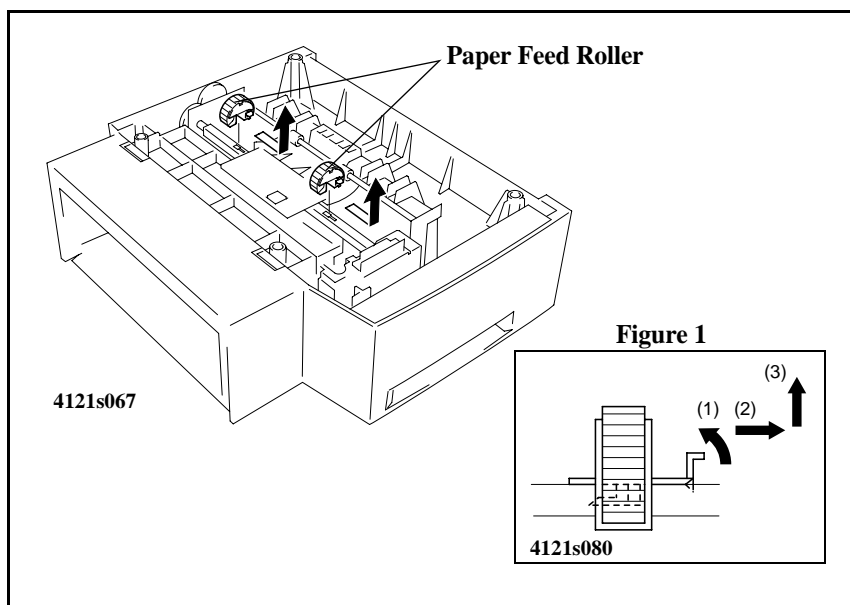

Figure 4-30. Second Paper Feed Roller Replacement
2. Remove the paper feed roller as shown in the figure 1 in the Figure 4-30.